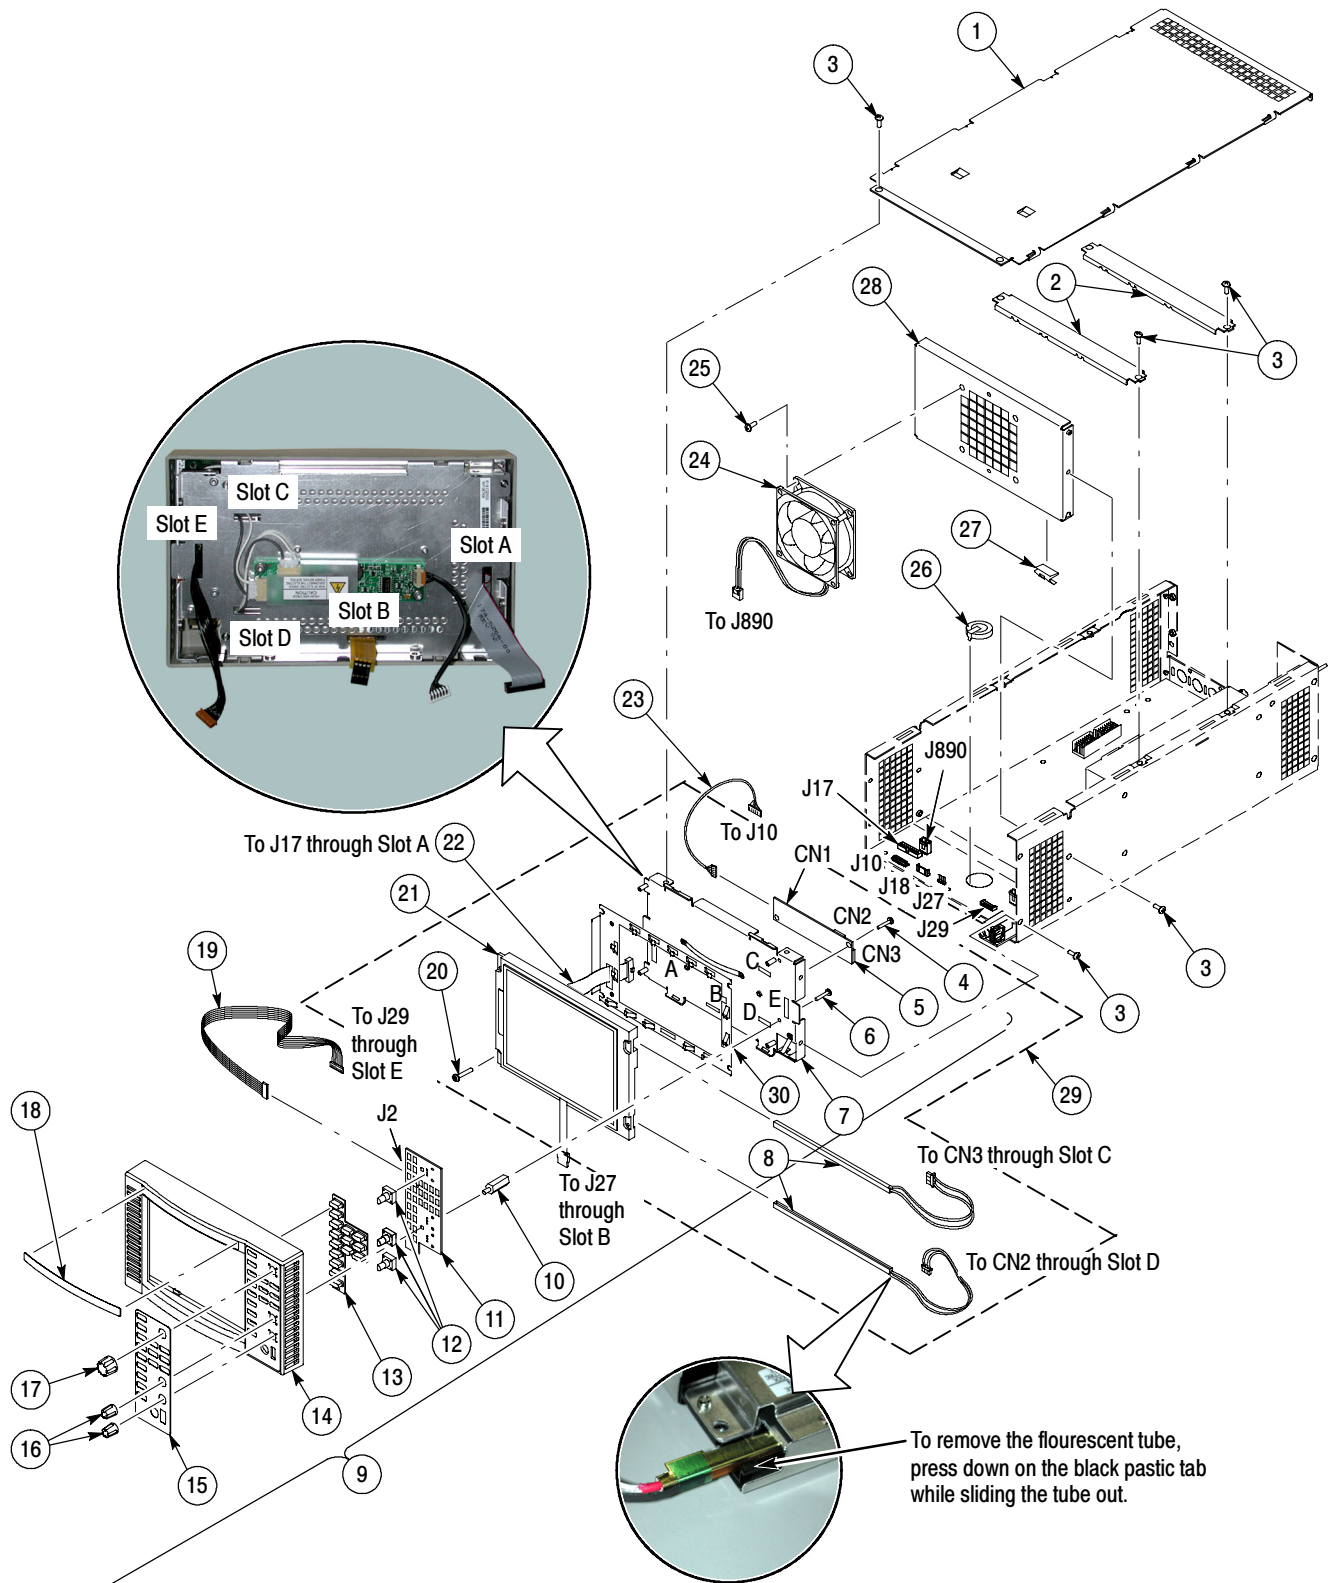

Figure 5-2: Chassis components
**Replaceable cables, connectors and other mechanical parts (Figure 5-2)**
**Replaceable cables, connectors and other mechanical parts (Figure 5-2) (Cont.)**